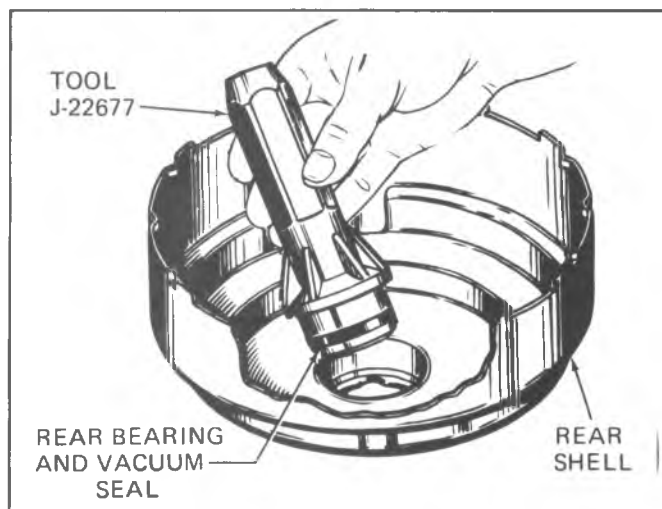

Fig. 5-8B--Installing Rear Bearing and Vacuum Seal
1. Press the new bearing and seal into the cavity in the rear housing using Tool J-22677 (fig. 5-8B). The flat rubber surface of the seal should be $5/16$ " below the flat, inside surface of the rear housing.